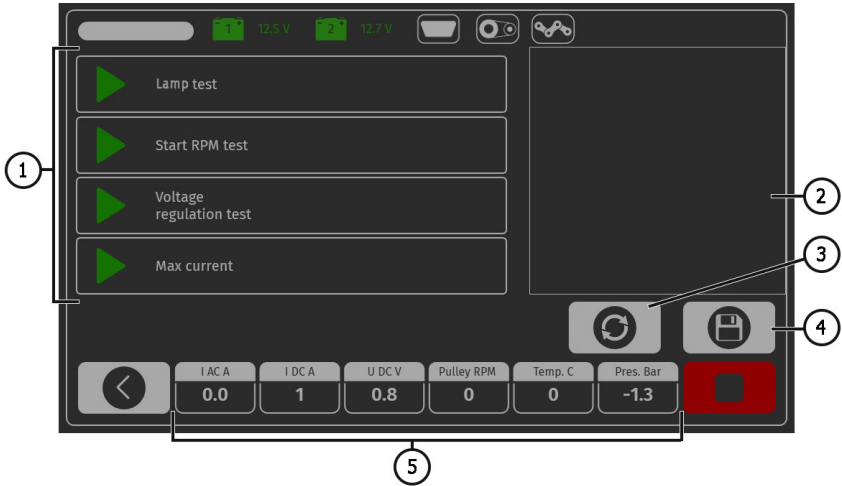

Figure 18. Automatic check mode menu *:
4.2. If the alternator rotates normally and there are no signs of mechanical failure of the unit, press the button «OK» - the window of automatic verification mode will open. fig. 18